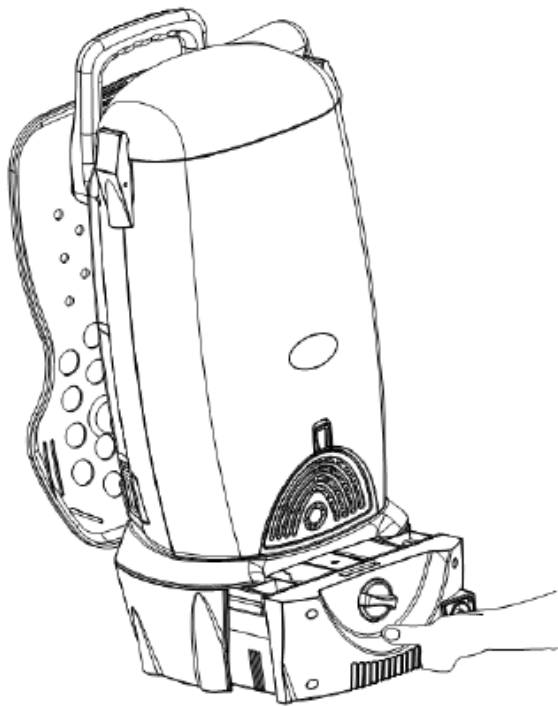

Fig 17
2. Unlock the battery pack by turning knob clockwise and take the battery pack out from the vacuum. (Fig 17)